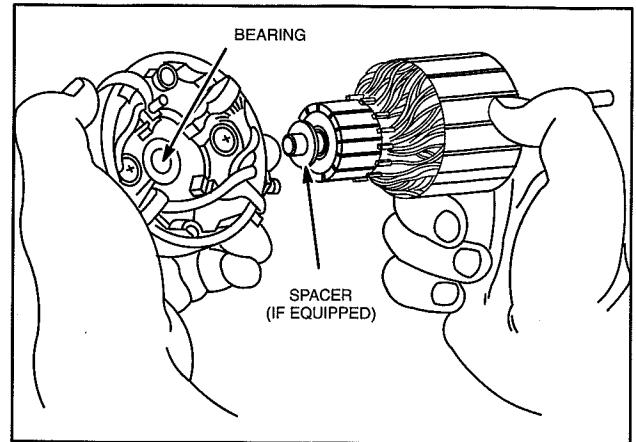

Fig. 30 – Assembling Armature to End Cap
2. Assemble armature to brush end cap, Fig. 30.